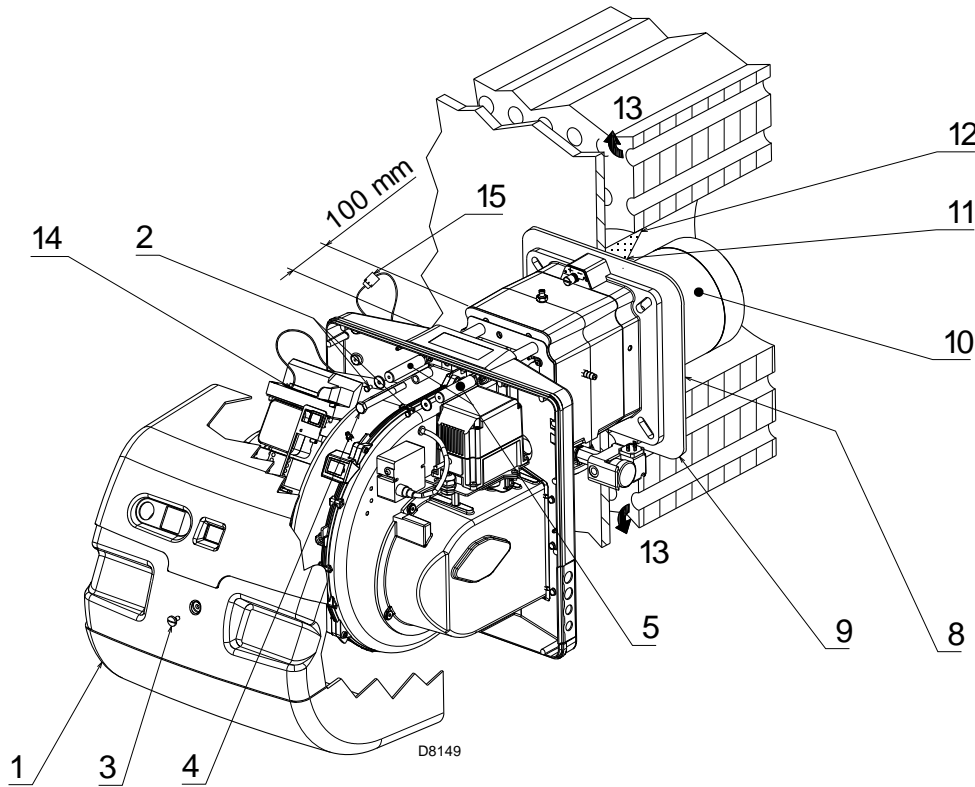

Fig. 17
For boilers with front flue passes (Fig. 17), a protection in refractory material (11) must be inserted between the boiler refractory (12) and the blast tube (10).
For boilers with a water-cooled frontal, a refractory cover is not necessary (11)-(12)(Fig. 17), unless expressly requested by the boiler manufacturer.
Separate the combustion head from the rest of the burner, as in Fig. 17; proceed as follows:
- reassemble the burner on the guides 3) at about 100 mm from the pipe coupling 4) - burner in the position shown in Fig. 17;
- connect the plug of the servomotor 14)(Fig. 17) and tighten the grommet 15);